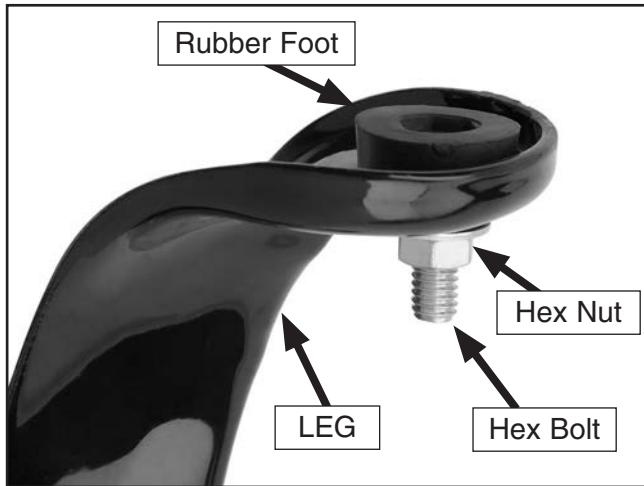

Figure 13. Foot fastened to bottom of a leg.
1. Insert a $\frac{5}{16}$ "-18 x 1" hex bolt through bottom of rubber foot, then insert foot into bottom of leg and fasten it finger tight with $\frac{5}{16}$ "-18 hex nut and flat washer, as shown in **Figure 13**.